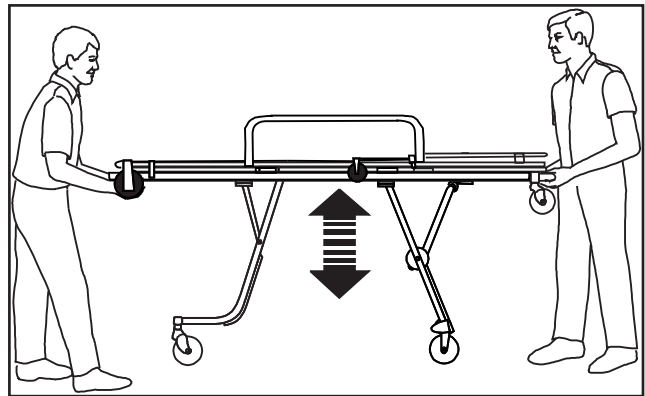

Figure 16 - Raising and Lowering the Cot
1. Both Operators: Stand at opposite ends of the cot and grasp the main frame with both hands. Position your right hand to squeeze the leg control handles (Figure 16).